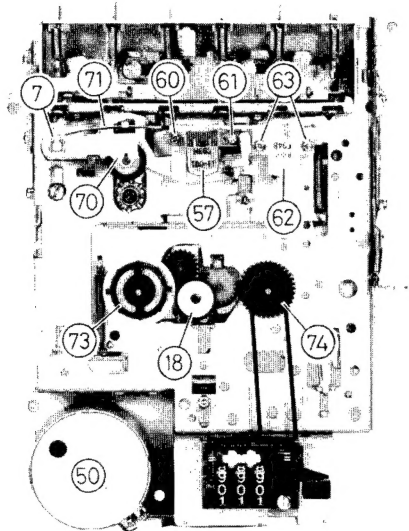

Fig. 13
- 1) Position the mechanism shown in Fig. 13 with the motor side down, enter the recorder into the playback mode, and hang a tension gauge on the protrusion part of the pinch roller arm shown in Fig. 13. Next, confirm that when slowly pulling the tension gauge, the pinch roller stops rotating in the range of 450-550 g.